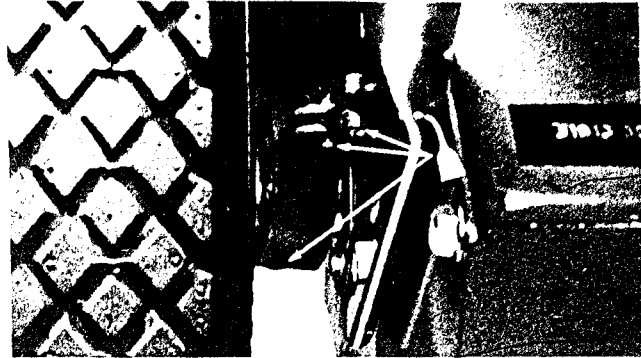

Figure 29
2. Lubricate pivot points of both wheel clutches with two drops of SAE 10W-40 oil (Fig. 29). Wipe up any excess oil.